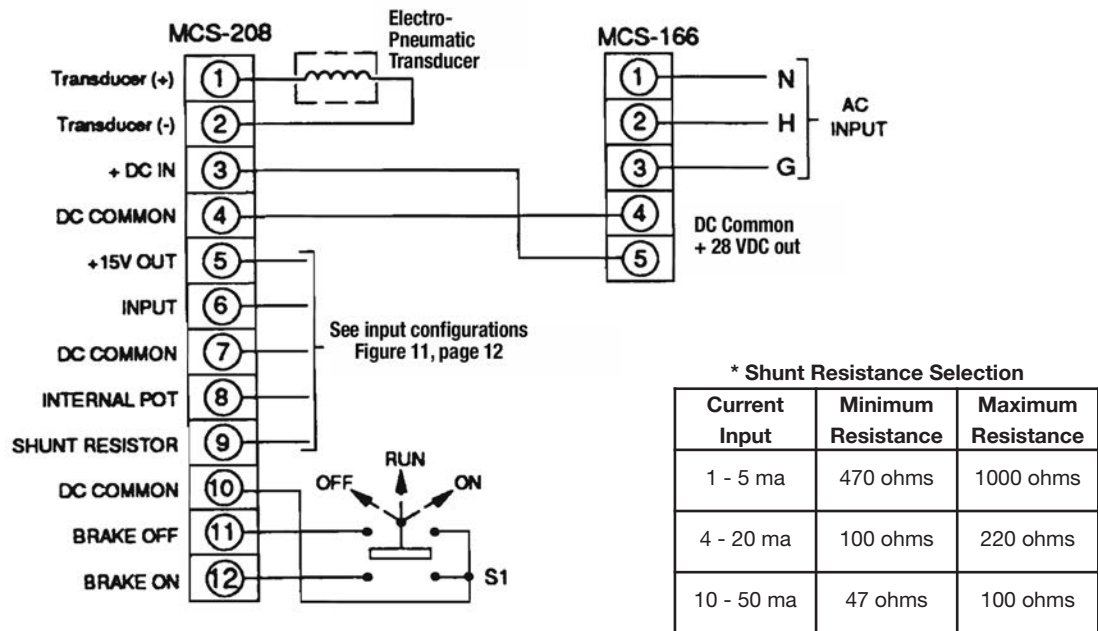

Figure 10. MCS 166/MCS-208 Wiring - Single or Dual Brake
**NOTE:** If only a single brake-off function is used, an SPST maintained contact switch may be used. If both functions are used, a three position switch is recommended, as shown in Figure 10, page 11.
- 6. Double check all wiring connections per Figures 10 & 11 for accuracy and tightness.
- 7. Reconnect the front housings if either wall or shelf mounting is used. Secure the latches. If shelf mounting is used, secure the housings with the four (4) bolts for each section.